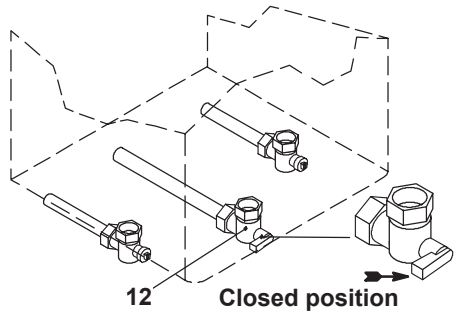

Fig. 2.8
- Shut off the gas supply cock 12 and the valves for the water circuits fitted under the boiler (Fig. 2.8).
Shut off the valves positioned under the boiler (Fig. 2.8 on page 12) and call an Authorised Service Centre Engineer.